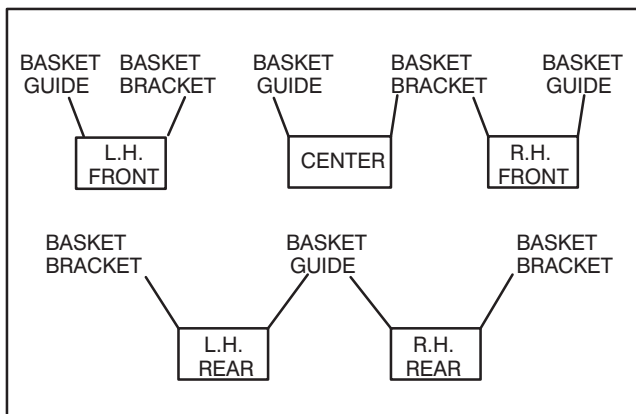
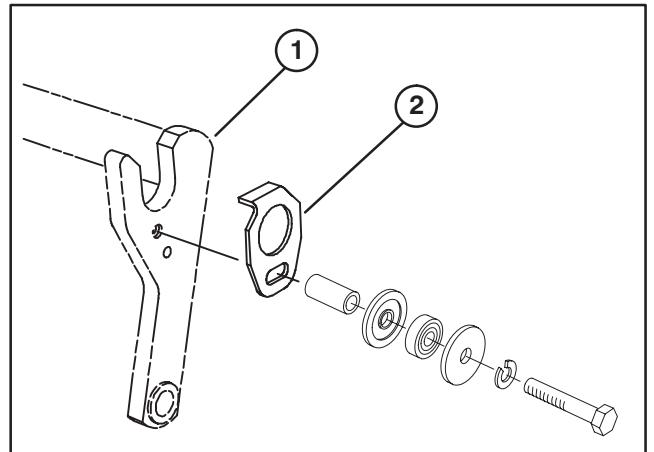
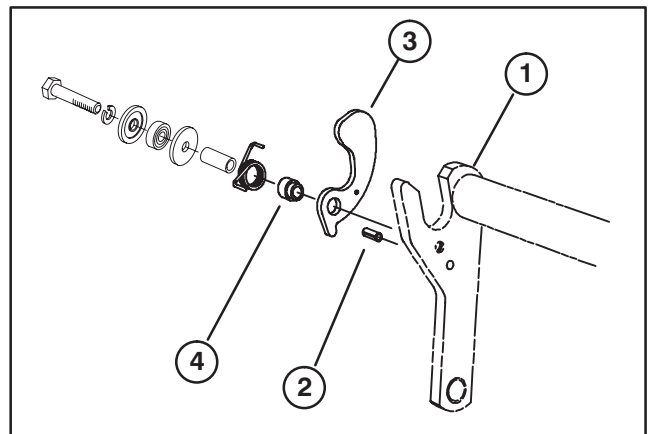
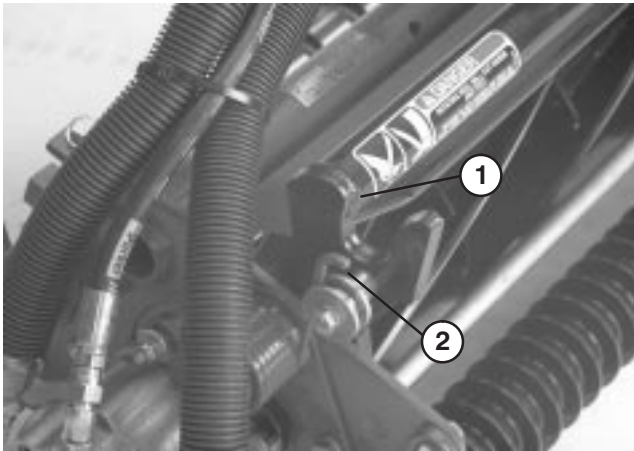

Figure 5
Figure 6
Figure 7
Figure 8
INSTALL CUTTING UNITS (Fig. 5–12)
2. If baskets will be installed, use chart below (Fig. 5) to determine locations at which basket guides or basket brackets must be mounted to cutting unit carrier frames. If baskets are not to be installed, proceed to step 7.
3. Remove hardware securing Turf compensation kit to each end of carrier frame (Fig. 6 & 7) and reuse when installing basket guides and basket brackets.
4. Mount a basket guide (Fig. 6) to the appropriate side of each cutting unit carrier frame (see figure 7) with a 5/16–18 x 1–3/4" lg. capscrew, flatwasher and lockwasher or fasteners previously removed, as shown in figure 6.
5. Install a roll pin (Fig. 7) into hole in appropriate side of each cutting unit carrier frame (Fig. 5).
6. On the same side of carrier frame as roll pin is installed, mount a basket bracket with a 5/16–18 x 1–3/4" lg. capscrew, lockwasher, flatwasher, torsion spring, basket collar or fasteners previously removed, as shown in figure 7. Torsion springs are different for L.H. and R.H. sides of carrier frames. Three are (2) L.H. and (3) R.H. springs. Longer leg of spring is to be positioned forward as shown in Fig. 8.